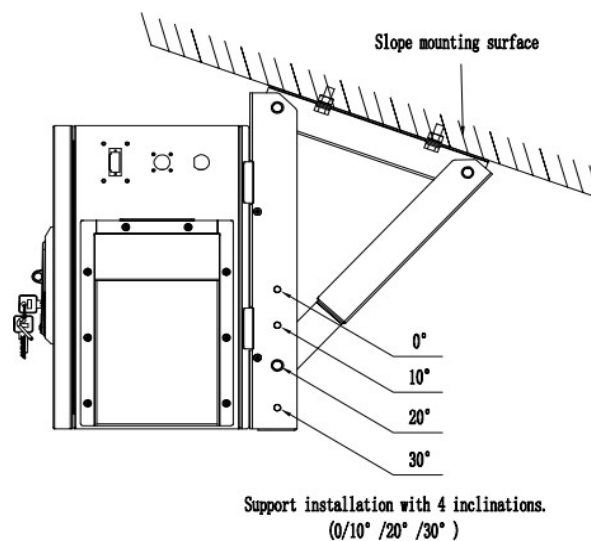

Figure 5.11 Diagram of Adjustment Angle of The Installation Plate
- Installation on angled overhead support : As shown in the figure 5.11 : Firstly, combined with the slope of the parking gantry, adjust the installation support angle so that the installed terminal is perpendicular to the ground. (Installation supports four angle adjustments: 0 °, 10 °, 20 °, and 30 °, to adapt to different gantry slopes). Then, use the combination bolts to install the Installing support in the corresponding position on the Parking sheet. Simultaneously install the Cabinet wall pendant on the charging dispenser. Finally, affix the charging dispenser on the Installing support.